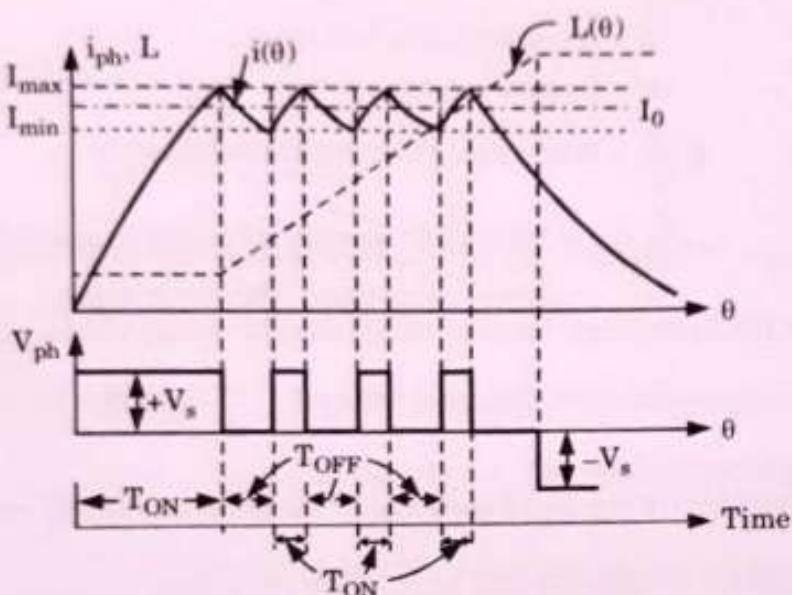

Fig. 3.3.3. Chopping mode.
5. In this Fig. 3.3.3, I_{\max} and I_{\min} are the upper and lower prescribed levels of chopped phase current and I_0 is its mean value.